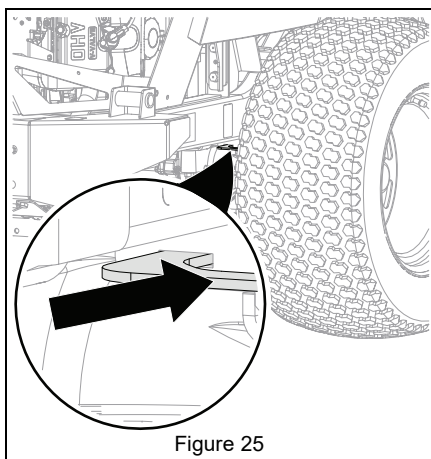

Figure 25
5. Return transaxle bypass levers to operating position. See Figure 25.